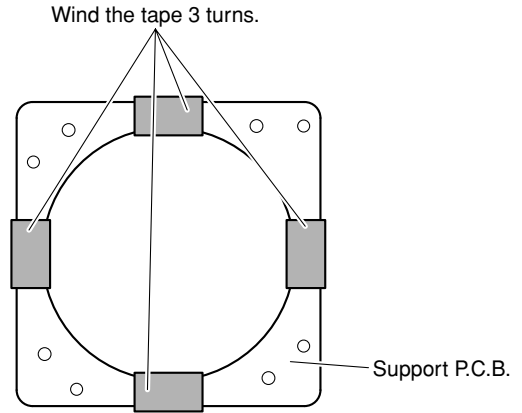

Fig. 4
- b. Wind the tape around 3 times at 4 places of the support P.C.B.. (Fig. 4)